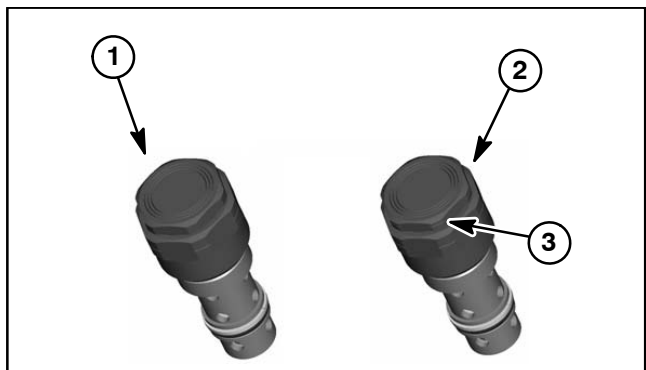

Figure 50
19. Remove forward and reverse relief valve cartridges from center case noting relief cartridge location for assembly purposes. The reverse relief valve cartridges can be identified by the groove in the hex head (Fig. 50).